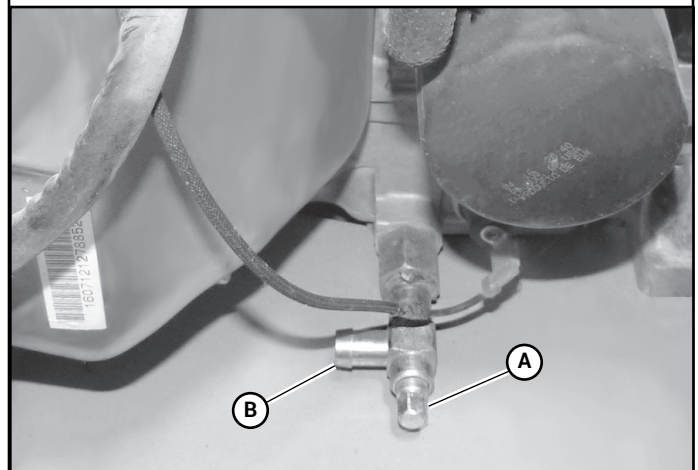
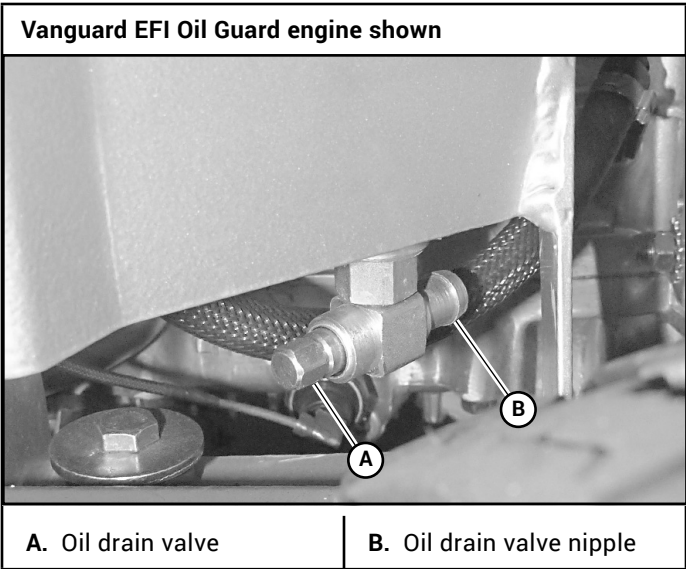

Figure 4-10
Figure 4-11
1. Locate the oil drain valve on the engine or at the bottom of the oil reservoir. Figure 4-10 and Figure 4-11